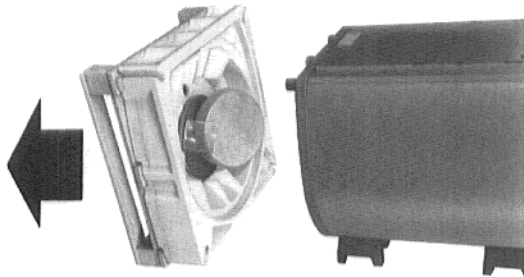

Fig. 10
4. Remove palett and bottom packing material from the rear of the tank (Fig. 10).